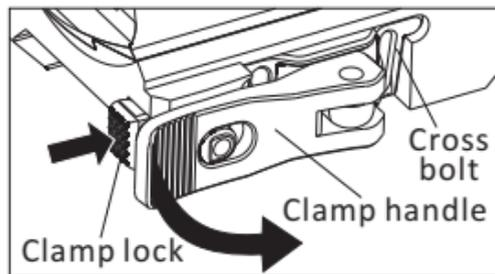

Fig 3-1
- 2. Designed with our patented nonlinear cam clamping system, no tools are required for attaching to a rail. Push locking button, lift up handle to loosen the locking bar. To mount sight on rail, push the handle down, locking button will automatically engage. The installation is complete.(fig 3-1)